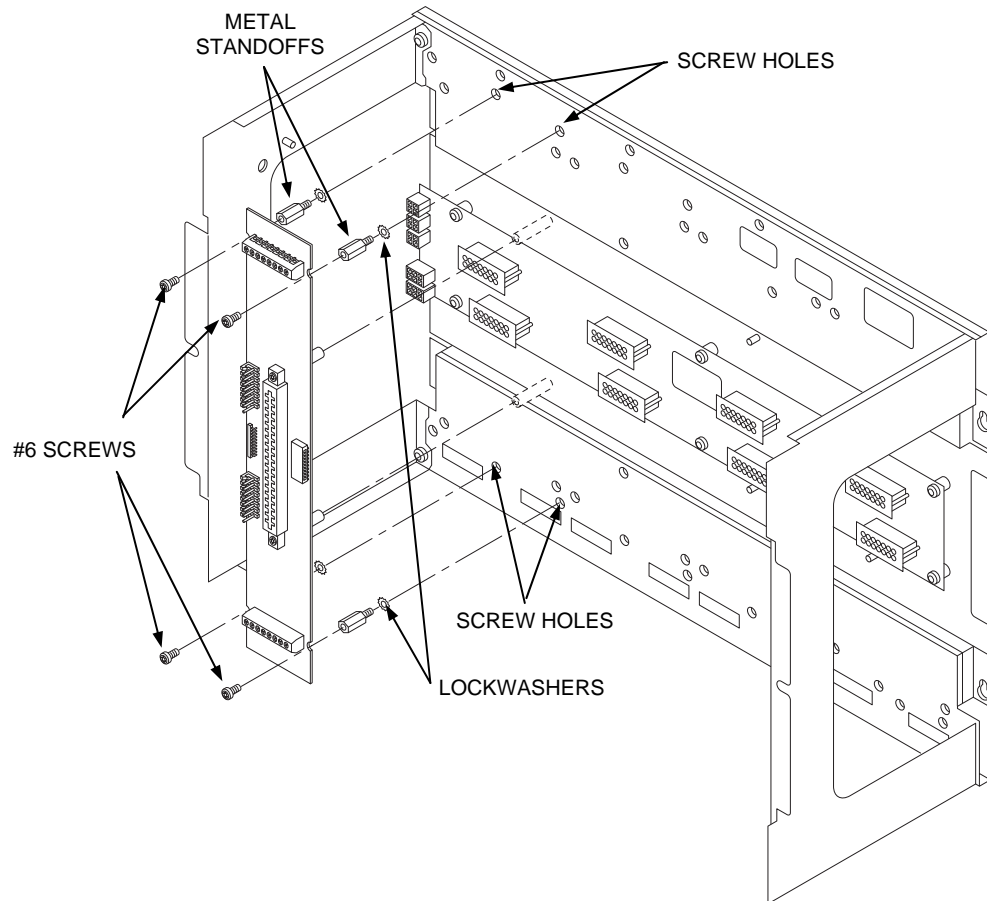

Figure 7. Installing the Motherboard in a 4100U/4100ES Expansion Bay
3. Secure the motherboard to the standoffs using four #6 torx screws as shown in Figure 7.